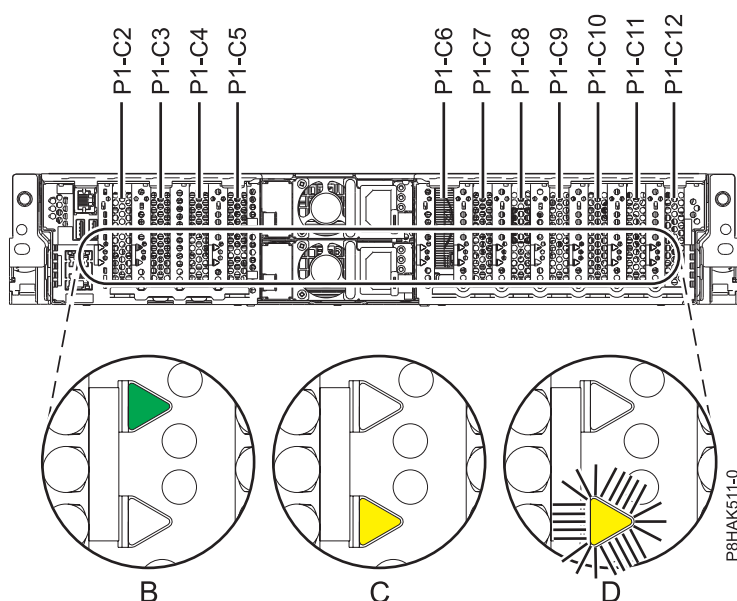

Figure 24. PCIe adapter slot locations and locations of the LEDs in the 5148-21L, 5148-22L, 8247-21L, 8247-22L, 8284-21A, or 8284-22A system
If you are servicing a failed PCIe adapter, look for the flashing amber LED for the failed PCIe adapter that you set to flash in the step to identify the failed part. See Figure 24 that shows the state of the LEDs. Note that the amber LED for the failed PCIe adapter is **Flashing**, as shown in (D) in Figure 24.
Attention: If the PCIe adapter is operating correctly then the Activity LED is **ON** (green) and the Error amber LED is **OFF**, as shown in (B) in Figure 24. Do not attempt to remove the working PCIe adapter.